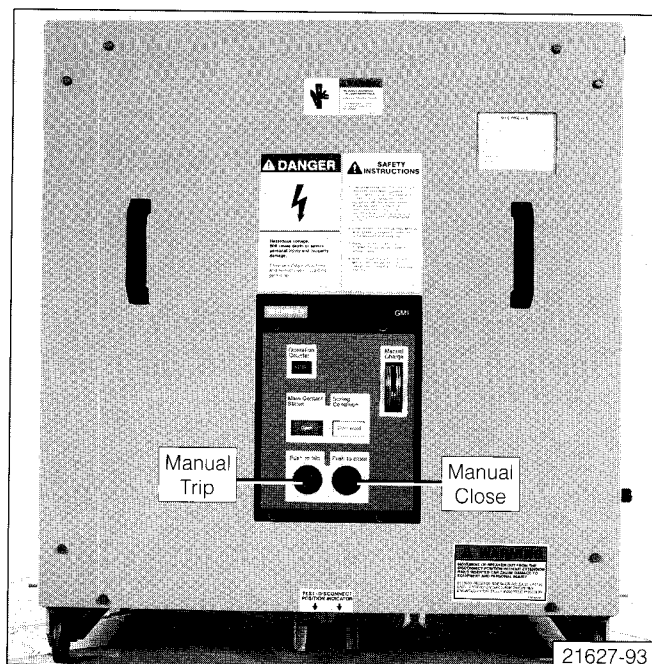

Figure 2: Front Panel of GMI Circuit Breaker.
Spring Discharge Check (Figure 2) - Perform the Spring Discharge Check *before* removing the circuit breaker from the pallet or removing it from the switchgear.
5. Use the Close and Trip controls (**Figure 2**) to first Close and then Open the circuit breaker contacts. Verify contact positions visually by observing the Open/Closed indicator on the circuit breaker.